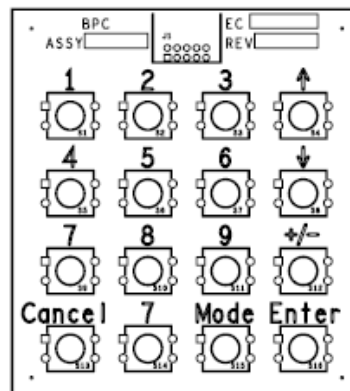

Figure 9.3
4. To disable Menu Code 9, press the ↑ button on the keypad (See Figure 9.3) and press the **ENTER** button. The volume display returns to three dashes.